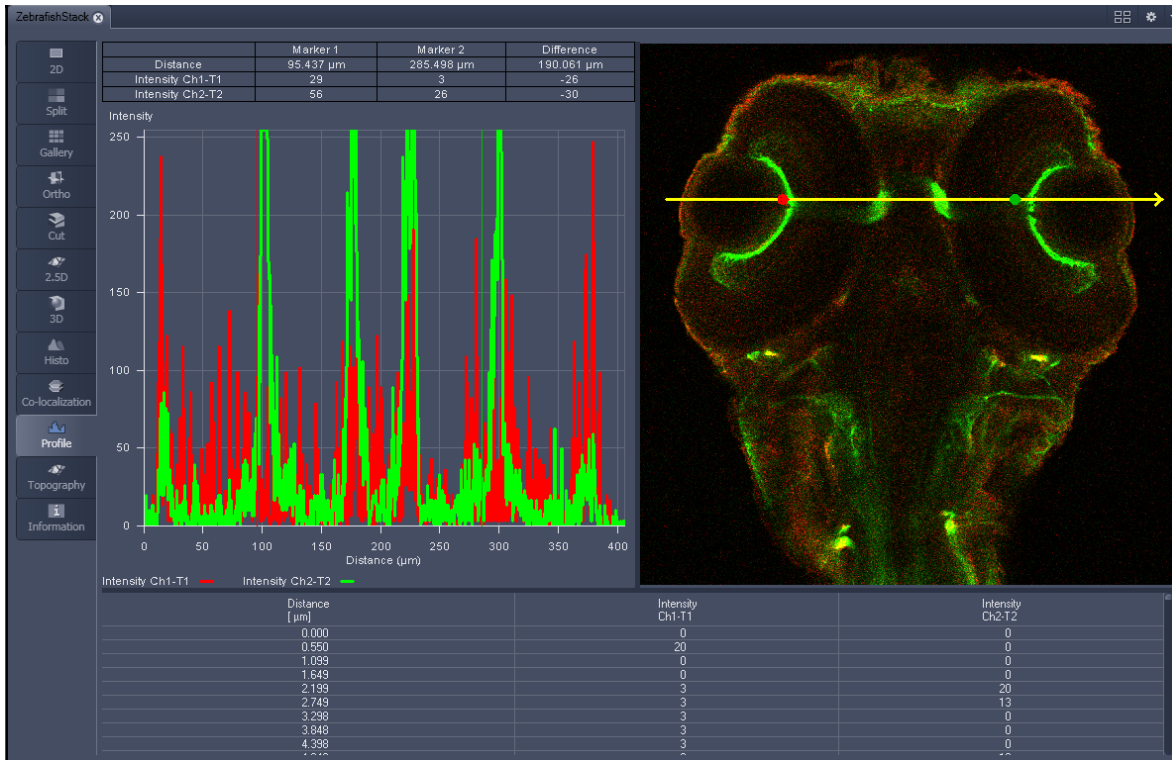

Fig. 549 Image Display - Profile View, Line Profile with markers
- Draw a Profile line in the image display to define a profile. The intensity curves are shown in a separate graph (see Fig. 549).